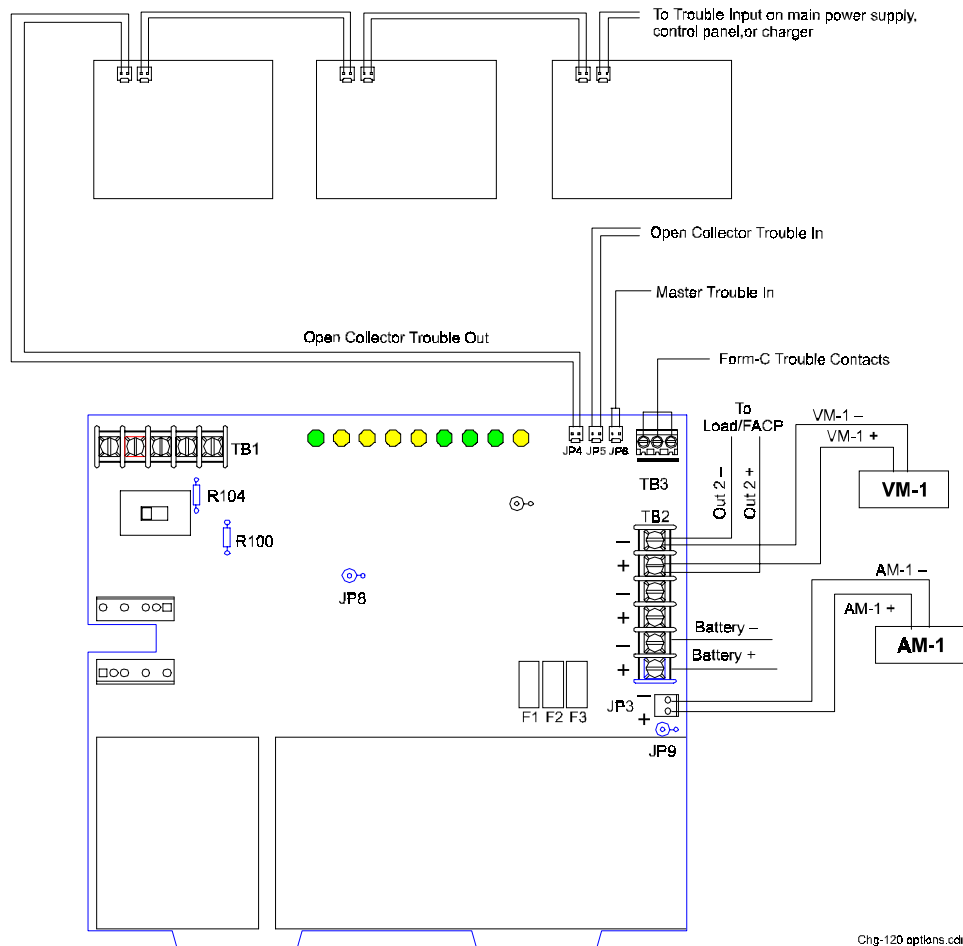

Figure 13 Connections for Optional Devices
Figure 13 shows charger trouble and Form-C relay connections:
1. Cut jumper JP9 on the charger (Figure 13).
1. Connect the positive lead to TB2 Out 1 (+). See Figure 13.
2. Connect the negative lead to TB2 Out 1 (-). See Figure 13.
1. Connect the AM-1 (Figure 13).
2. Connect the VM-1 (Figure 13).